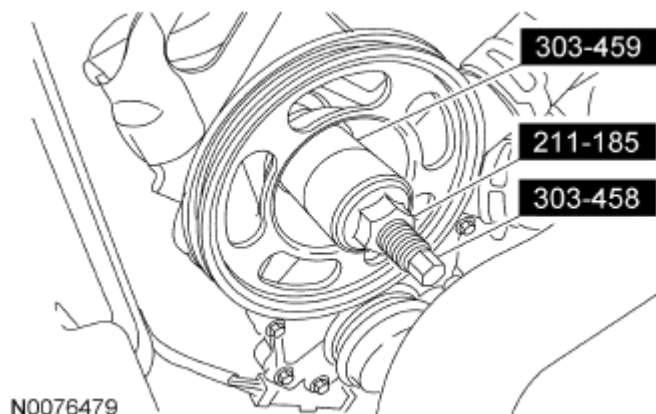

Fig. 356: Identifying Camshaft Pulley Installer, Power Steering Pump Pulley Installer And Water Pump Pulley Spacer
NOTE: Failure to use the correct special tools, assembled as shown in the **Fig. 356**, will result in damage to the coolant pump pulley and/or special tools.
81. Position the coolant pump pulley over the previously installed Camshaft Pulley Installer and on the end of the camshaft. Install the Camshaft Pulley Installer, Power Steering Pump Pulley Installer and the Water Pump Pulley Spacer as shown in the **Fig. 356**.